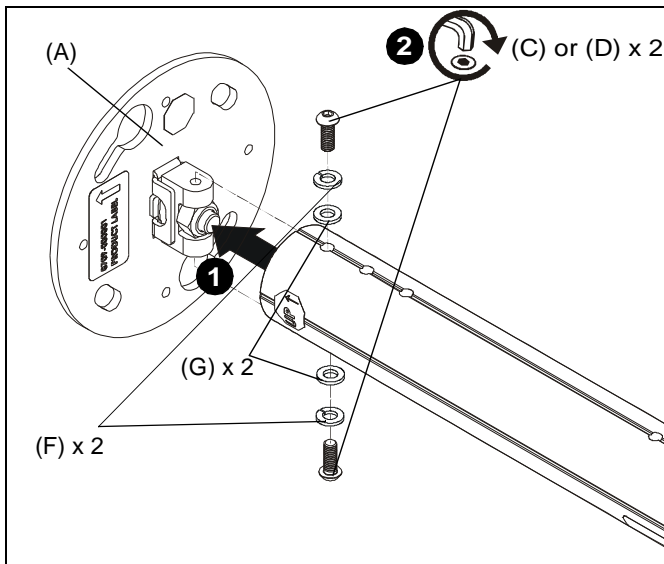

Figure 1
1. Place extension column (not included) over CPA116 (A) pin connector, lining up holes on pipe with holes in pin. (See Figure 1)
2. Use two M6 x 16mm button head cap screws (C) or two M6 x 16mm button head security screws (D), two M6 lock washers (F) and two M6 flat washers (G) to secure extension column to connector pin. (See Figure 1)